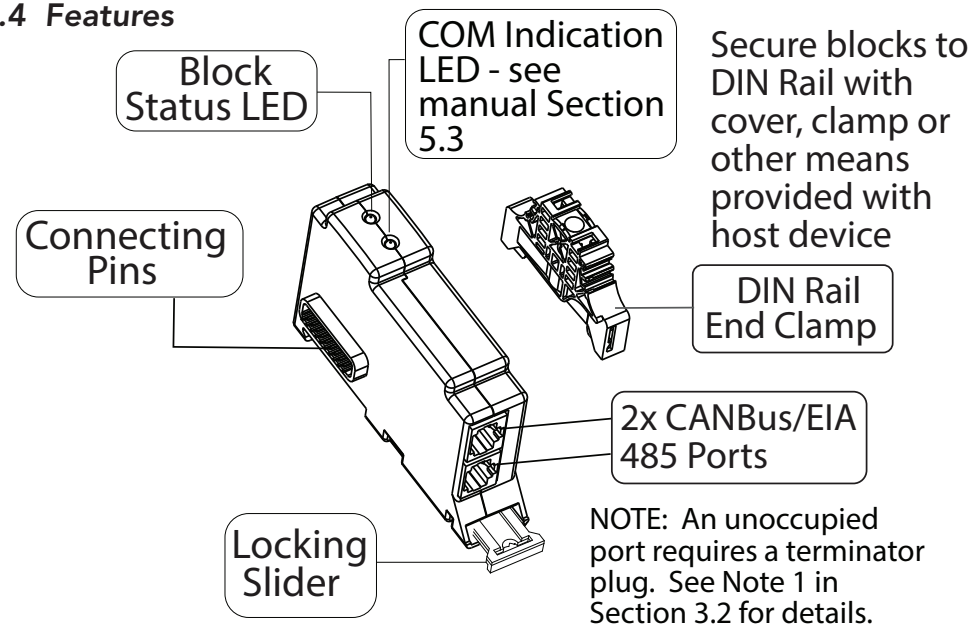
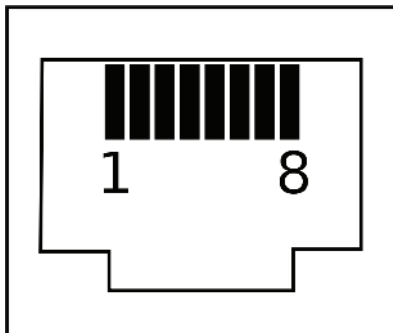

Figure 2-1. ReadyBMS Features
Figure 3-2. End of RJ-45 Plug - Conductor Profile
For CANBus-enabled batteries, use an 8-conductor straight-through RJ-45 cable (provided), and attach one end to one of the RJ-45 ports on the BMS Block - see Figure 2-1. Attach the other end to a CANBus port on the BMS-battery. All supported batteries conform to CAN pin configuration - for details, see Table 3-1 and Figure 3-2 in Section 3.3.
**NOTE 1:** *If the BMS Block is used with the only controller in the system, or it is at the end of a CANBus Network, the BMS Block CANBus-RJ-45 port not connected to the BMS-battery will require installation of a terminator plug (120 Ohm terminator resistor installed across the CANL and CANH wires). A BMS Block communications terminator plug is included - see Figure 2-1 in Features Section 2.4. For any BMS-battery side CANBus termination requirement, refer to your third-party BMS-battery manufacturer's documentation.*
All *currently* supported batteries conform to CAN pin configuration. For an up to date list of battery storage products supported by the ReadyBMS, go to [www.morningstarcorp.com](http://www.morningstarcorp.com). CANBus-enabled batteries will require a cable assembly with the configuration seen in the Table 3-1 and Figure 3-2 below. Some BMS-battery systems may require a modified cable assembly - available separately.
See Figure 2-1 in Features Section 2.4, and Table 5-1 below.